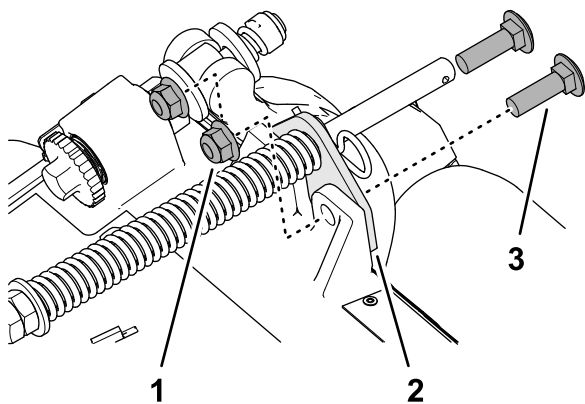

Figure 13
2. Remove the 2 flange locknuts (3/8 inch) and 2 carriage bolts (3/8 x 1-1/4 inches) that secure the turf-compensator bracket to the cutting-unit frame (Figure 13).